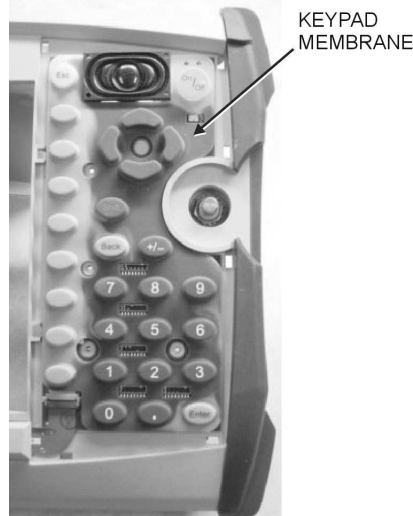

Figure 22. Keypad Membrane
3. Remove the keypad membrane by carefully lifting the speaker and pulling the membrane off of the keypad PCB (Figure 22).